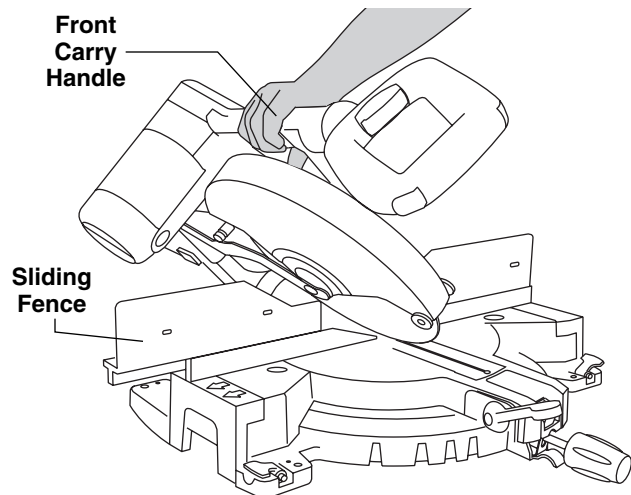

Figure 2.
- a. Extend left sliding fence to clear saw assembly and re-lock (Figure 2).
- c. Grasp the front carry handle with right hand and tilt saw head to angle desired (Figure 2).
- a. Extend right sliding fence to clear saw assembly and re-lock (Figure 2).
- c. Standing on right side of saw, grasp the front carrying handle with right hand and tilt saw head slightly to the left while rotating the bevel range selector knob with left hand to “0-45° Right” (Figure 2).
- a. Move left or right sliding fence to clear saw assembly and re-lock (Figure 2).
slightly to the left while rotating the bevel range selector knob with left hand to “Max Range” (Figure 2).